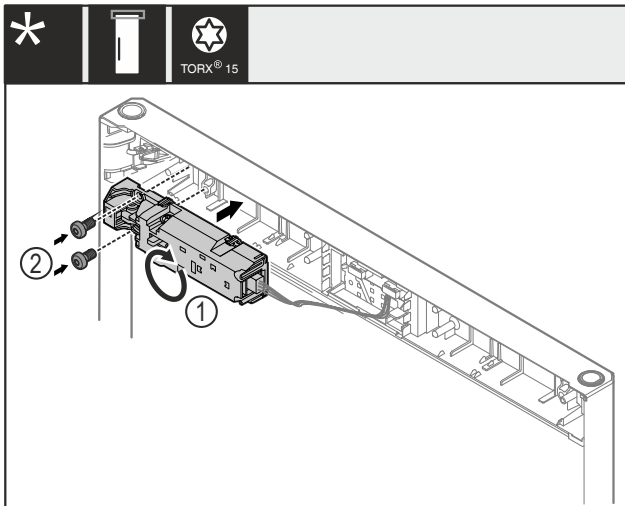

Fig. 22
- Turn the remote lock Fig. 22 (1) by 180° and attach it to the opposite side.
- Attach the remote lock Fig. 22 (1) with screws Fig. 22 (2).